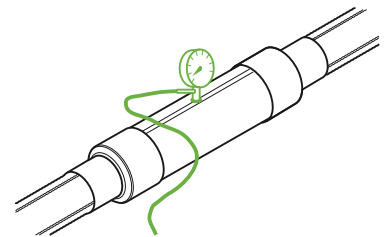

Fig. B12.2.12
11. Drill a 23 mm diameter hole in the area marked for filling the sleeve with PUR (Fig. B12.2.12).
12. Spray soapy water solution around the joint areas. Connect the air pump adaptor with pressure gauge into the hole drilled in step 11 and connect the air pump (Fig. B12.2.12). Pump the air pressure in the sleeve up to 0.3 Bar, and visually inspect all joint areas for soap bubbles appearing. If necessary, spray additional soapy water solution. If bubbles appear, the Heat Shrink Sleeve joint is not sufficiently tight. To fix this, remove the air pressure from the joint and apply additional heat to the heat shrink band. Repeat the pressure test process to verify that the joint is tight. If a leak still remains, heat shrink jacket repair bands can be used. Repeat the air pressure test to verify joint tightness.